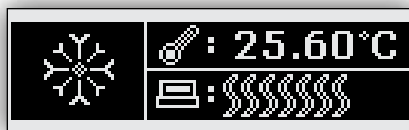

FIGURE 3
6. Figure 3 will be displayed during the warm up cycle. The snow flake icon indicates that the simulator is still cold and is not ready for use. The temperature of the solution is displayed in the upper right hand corner of the screen. The bottom right hand corner shows the status of the top housing temperature.